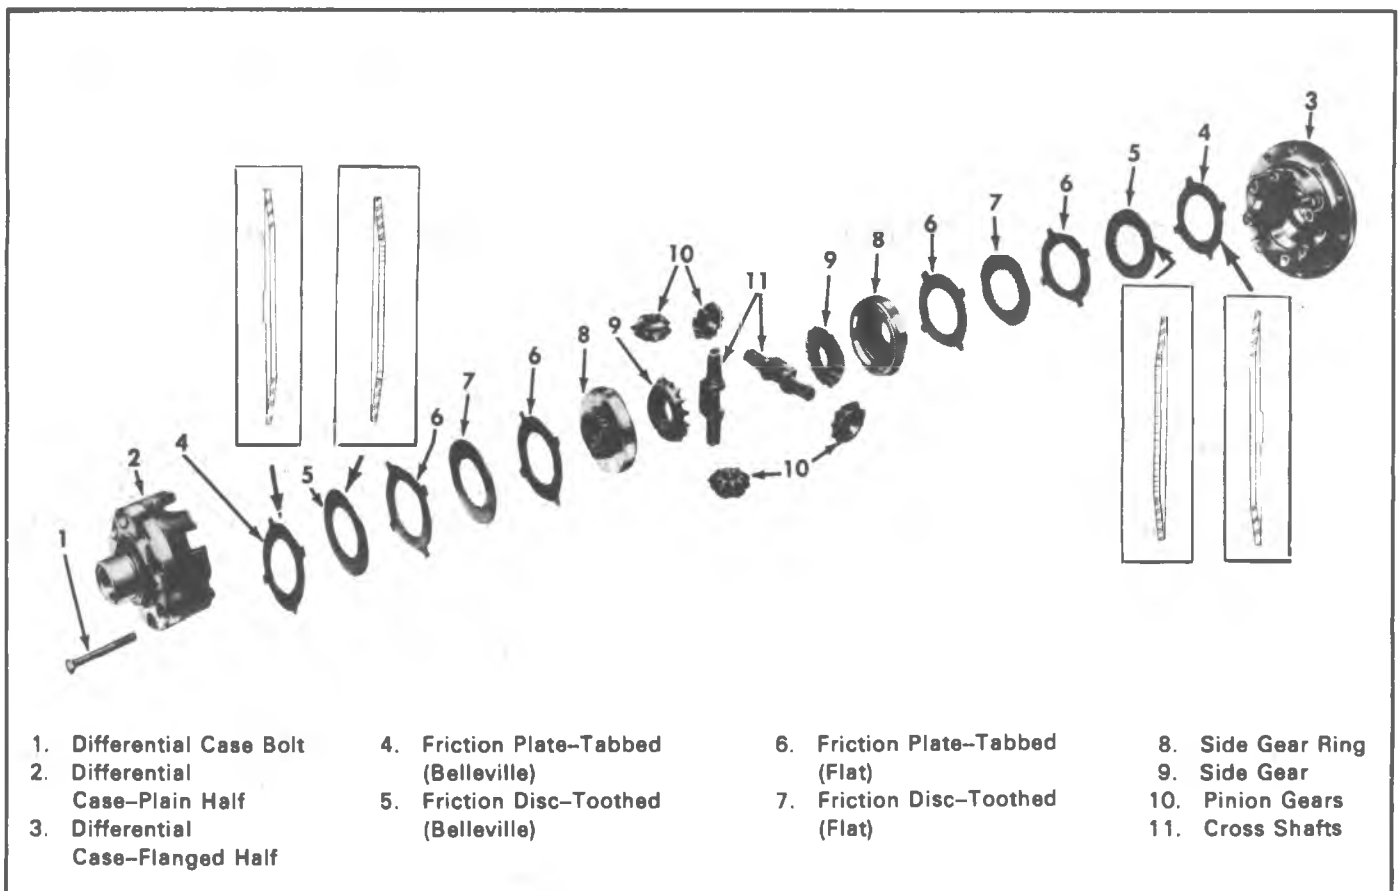

Fig. 22D-Power-Lok Differential
The Power-Lok differential shown in figure 22D is a unit which is installed as optional equipment in place of the standard differential. The locking differential permits the major driving force to be transmitted to the wheel with better traction. This means that the vehicle can be operated on ice, snow, sand or under other adverse conditions with a minimum amount of slippage through one wheel.
A series of clutch plates and dished (Belleville) friction plates on each side of differential side gears transmits drive from differential case to axle shafts. Carefully observe the order in which the plates are used, since they must be replaced in the same order. Refer to figure 22D.
1. Place tabbed Belleville friction plate (4) in flanged differential case, being extremely careful that convex (bulged) side is toward the side gear. See figure 22D.
2. Assemble remaining plates and discs to splines of side gear ring, being sure they are assembled in the same order of removal. The convex (bulged) side of the Belleville friction disc (5) should be toward the side gear and it should nest into the Belleville friction plate (4).
5. In the order listed install the following: (1) side gear, (2) side gear ring, (3) flat plate with tabs, (4) flat disc with teeth, (5) flat plate with tabs, (6) Belleville disc with convex (bulged) side up, or toward side gear, (7) Belleville plate, with convex (bulged) side up, or side toward gear.